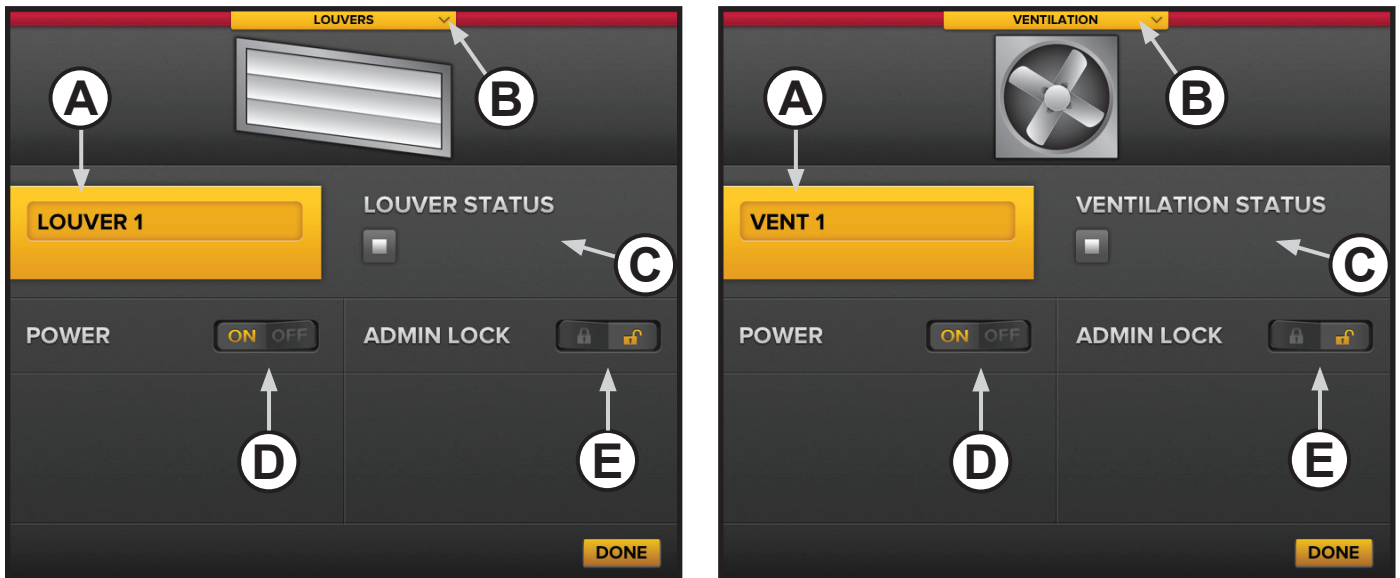

Figure 1–Louver and vent settings pages
3. Select the louver or vent. The louver or vent settings page appears (Figure 1).
4. Adjust the settings as necessary, and then touch **Done**. See Figure 1 below for details.